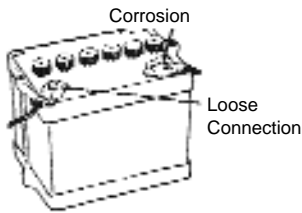
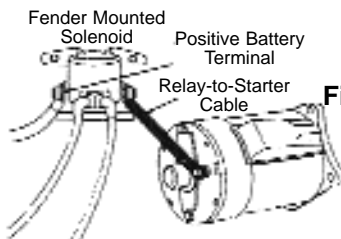

Figure 1
Figure 2
5. Inspect the battery cables and clamps. Look for corrosion at the terminal and where the cable enters the terminal (figure 1). On side post batteries, unbolt the terminal and examine the contact pads on the battery and cable ends. Clean all corrosion, tighten loose connections, and replace any deteriorated parts. We recommend the use of anti-corrosion pads or battery protectant spray to help minimize future corrosion. Inspect the wiring to the starter and/or solenoid. Some vehicles have a fender mounted solenoid; others have the solenoid mounted on the starter (Figure 2). Look for broken, burned, or loose wires and connections. Replace as needed.